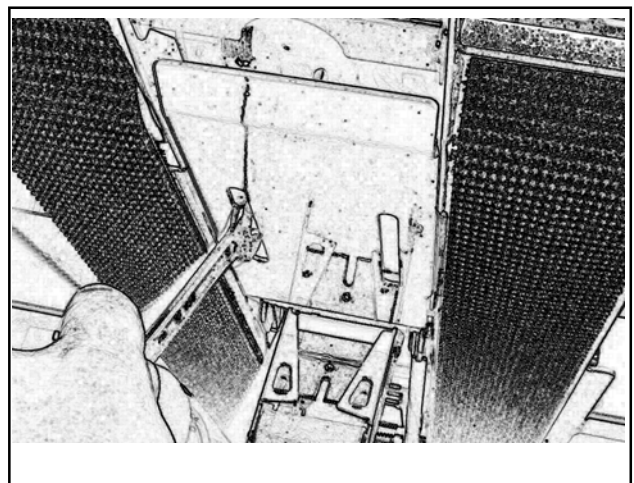

Figure 4-3—Upper Drive Belt Replacement
1. Using a 17 mm open end wrench, loosen, but do not remove the lock nut as shown in Figure 4-3.